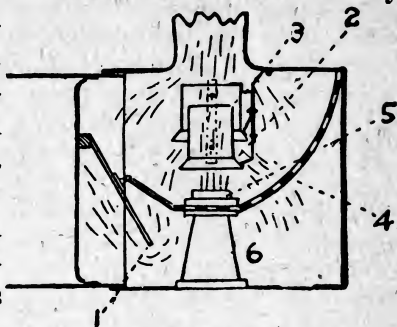

Fig. 3.
The draft appliances of a locomotive, as shown in Fig. 3, are diaphragm (1), petticoat pipe (2), adjustable sleeve (3), netting (4), exhaust nozzle (5), and exhaust stand (6).
The netting (4), shown in (Fig. 3), is a wire net, or screen, fastened to the smoke-box to prevent the sparks and cinders from passing out of the stack. The smoke, gases and small cinders passing through the flues are deflected downward by the diaphragm, then pass through the netting which prevents the larger sparks and cinders from escaping and causes them to collect in the bottom of the smoke-box (See Fig. 1). After the cinders are broken into fine particles by being dashed against the netting they mostly pass out of the stack with the smoke and gases.